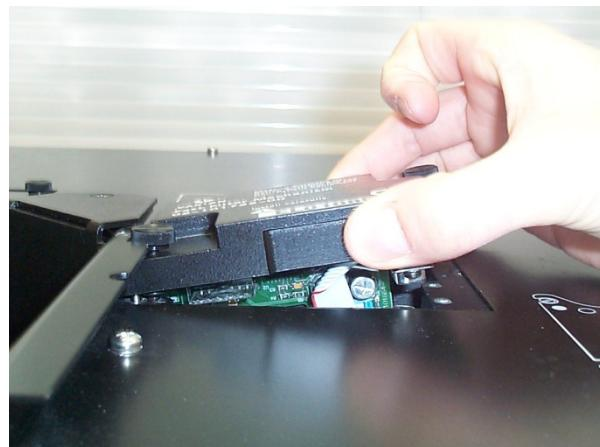

Figure 7. The edge nearest the male D-plug is raised at a 30° angle with the opposite edge touching the excitation chamber
- d Carefully lower the accessory into the excitation chamber, raising the edge nearest the male D-plug on a 30° angle so that the opposite edge of the accessory touches the excitation chamber first (see Figure 7). Once the edge is positioned, lower the male D-plug so that it is sitting on top of the female D-plug in the excitation chamber.
On the **Accessories** page of the **Setup** dialog box, select the **Fast Filter** option to display Fast Filter page (Figure 7). In this example the software will automatically calculate the result of Filter 3/Filter 1 and the result of Filter 4/Filter 2.